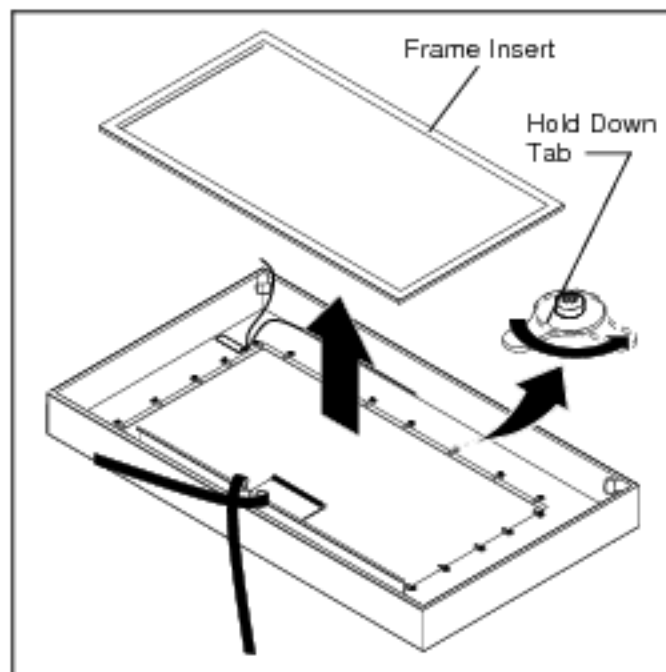

Figure 9
2. Turn hold down tabs to left or right. (See Figure 9)
3. Remove frame insert from frame. (See Figure 9)